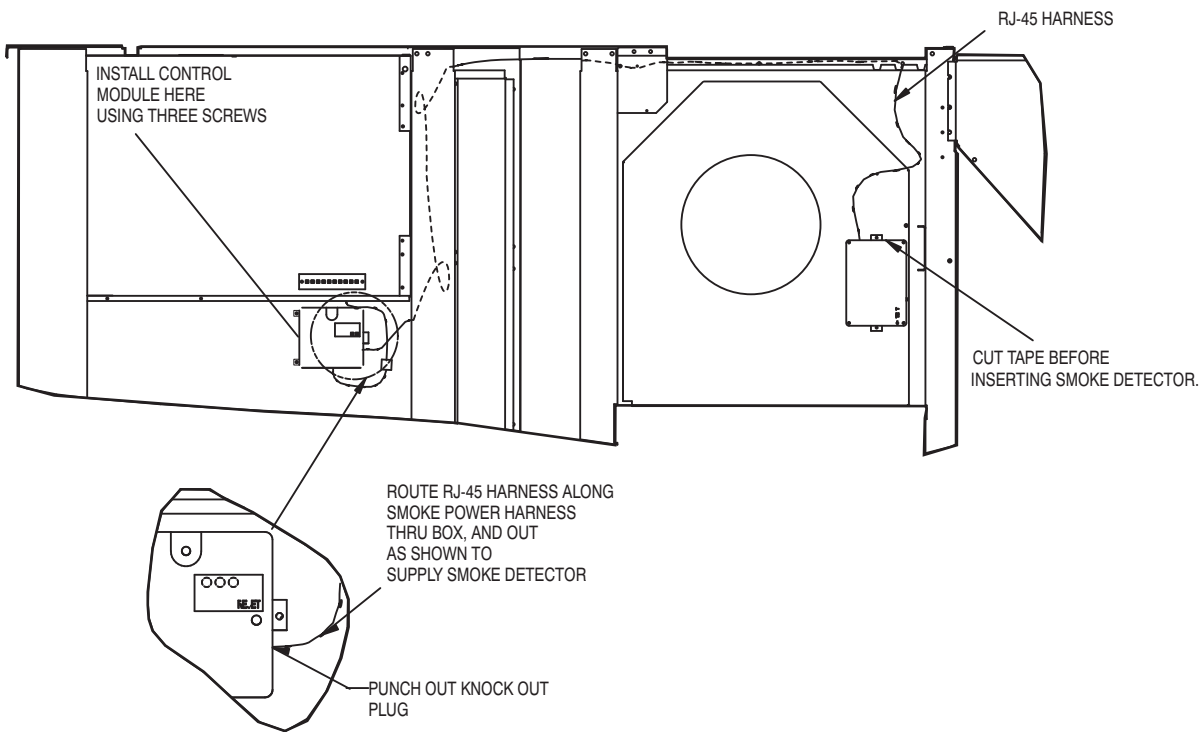

Fig. 10 – Supply Control Module Installation (Side View)
11. Insert one end of RJ-45 wire harness through knockout and wire to smoke detector as shown in Fig. 10.